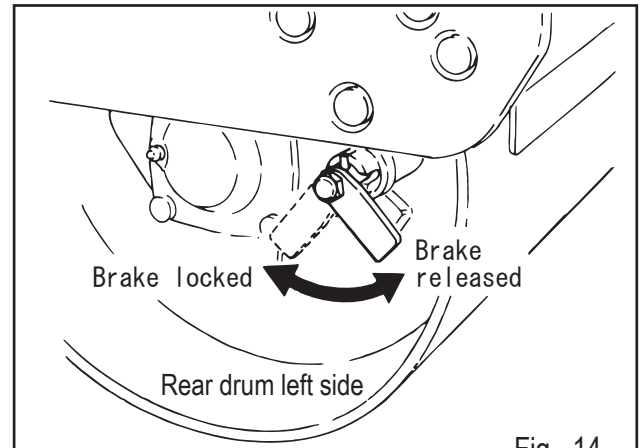

Fig. 14
CAUTION: Before starting to travel, be sure to disengage parking brake system. When the lever is tight, moving the roller back and forth will make it easier. (Fig.14)
- Lock the parking brake by pulling the brake knob and rotating it 90 degrees counter clockwise. (Fig. 14)